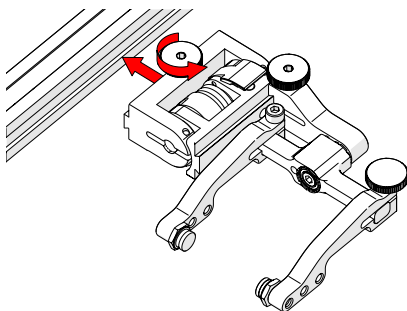

Fig. 42 - Attach to frame bar
1. Rotate the probe holder adjustment knob and attach the probe holder to a frame bar (Fig. 42).